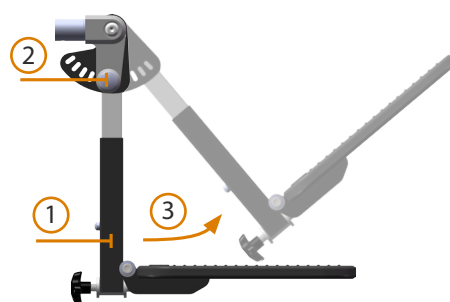

Figure 26. Angle adjustment
- Grip the footrest tubes near the bottom (1 in Figure 26).
- Pull the knob (2) on the right hand side and move the leg rest to the desired position (3).